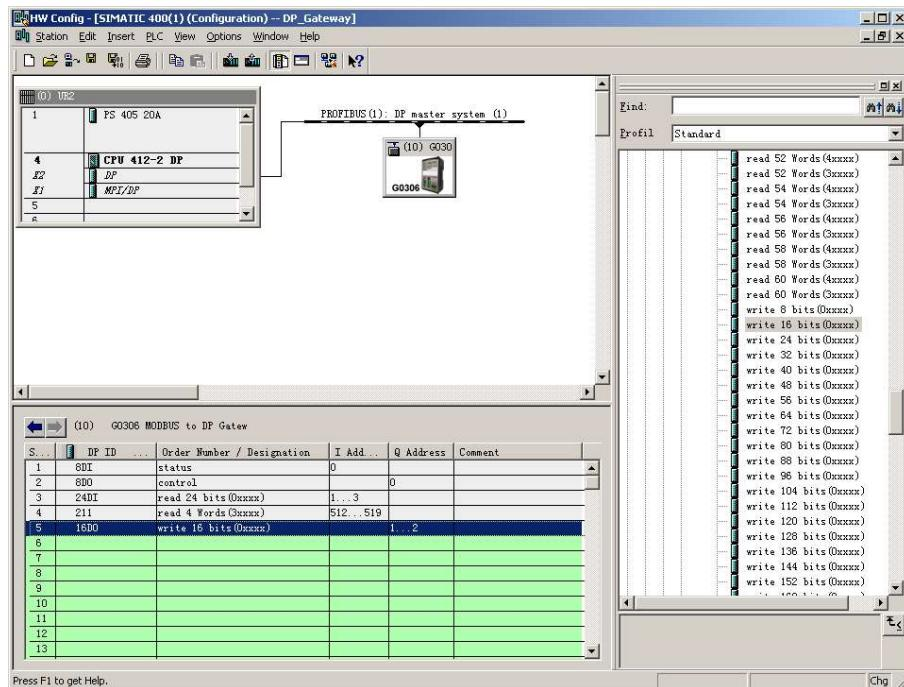

Figure 22 Add“write 16 bits(0xxxx)”module
a) Add the "write 16 bits(0xxxx)" module, as shown in Figure 22: